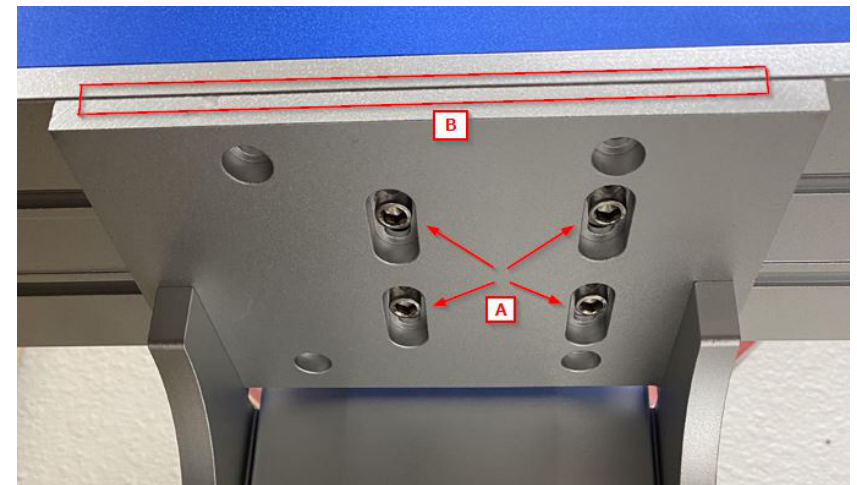

Figure 6
4. On the underside of the emitter head assembly there are four (4) Allen head screws (Figure 6 “A”).